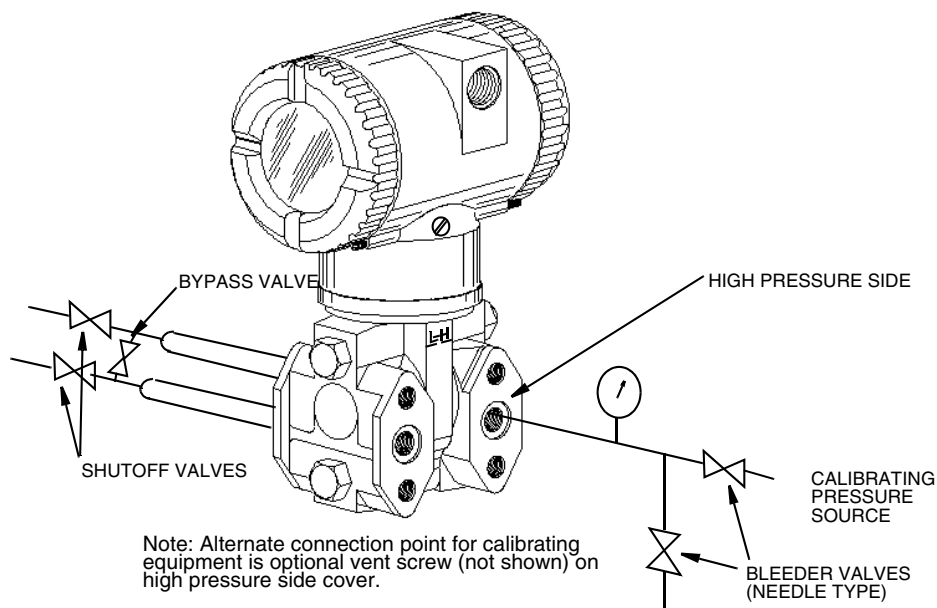
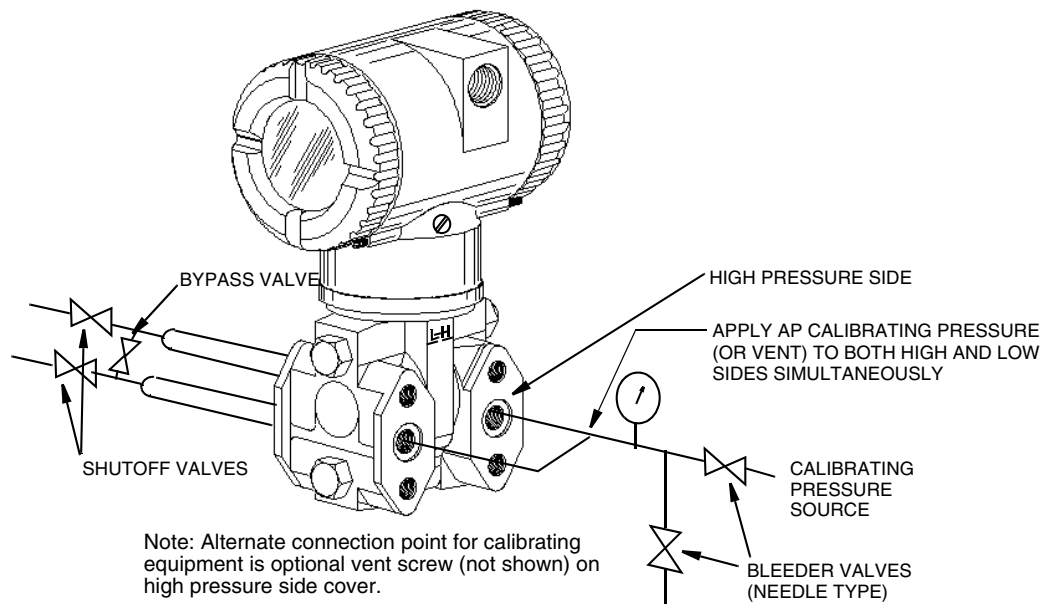

Figure 29. Setup for Differential Pressure Calibration
Figure 30. Setup for Absolute Pressure Calibration
To set up the equipment, refer to Figure 29 or Figure 30 and use the following procedure.
4. Complete the setup shown in Figure 29 for differential pressure calibration and Figure 30 for absolute pressure calibration.